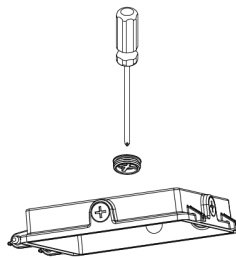

Figure 1-2
2. Loosen the 3/4" plug on the fixture housing cover with a screwdriver. Figure 1-2